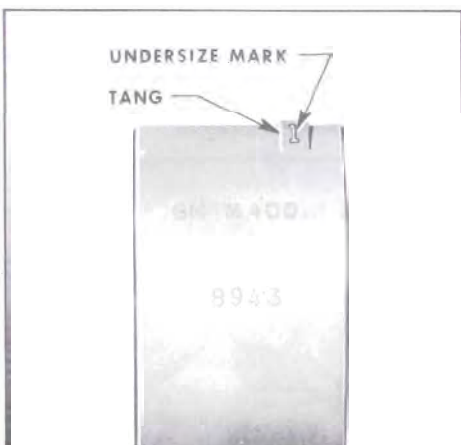

Figure 2-40—Location of Undersize Mark on Bearing Shell
7. If a new bearing is being selected, try a standard size, then each undersize bearing in turn until one is found that is within the specified limits when checked for clearance with Plastigage. NOTE: Each undersize bearing shell has a number stamped on outer surface on or near the tang to indicate amount of undersize. See Figure 2-40.
7. Remove compression rings. Then remove oil ring by removing the two rails, spacer, and expander which are separate pieces in each piston third groove. See Figure 2-40.